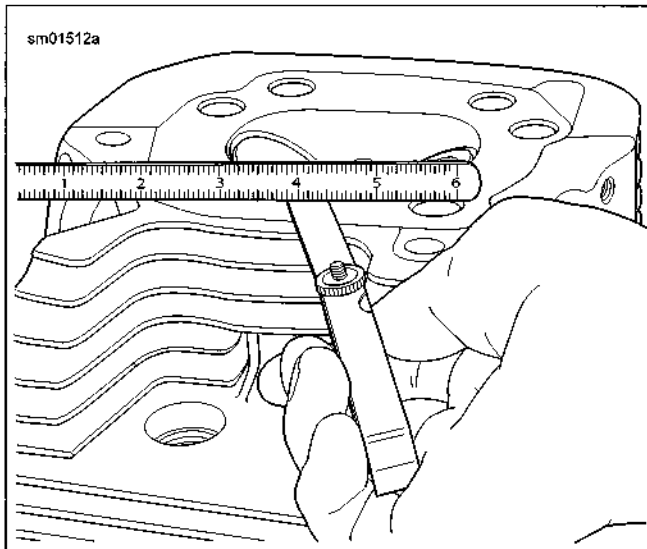

Figure 3-27. Gasket Surface: Flat Within 0.006 in (0.152 mm)
7. See Figure 3-27. Check head gasket surface on head for flatness. Machine or replace any head which exceeds SERVICE WEAR LIMIT of 0.006 in (0.152 mm).